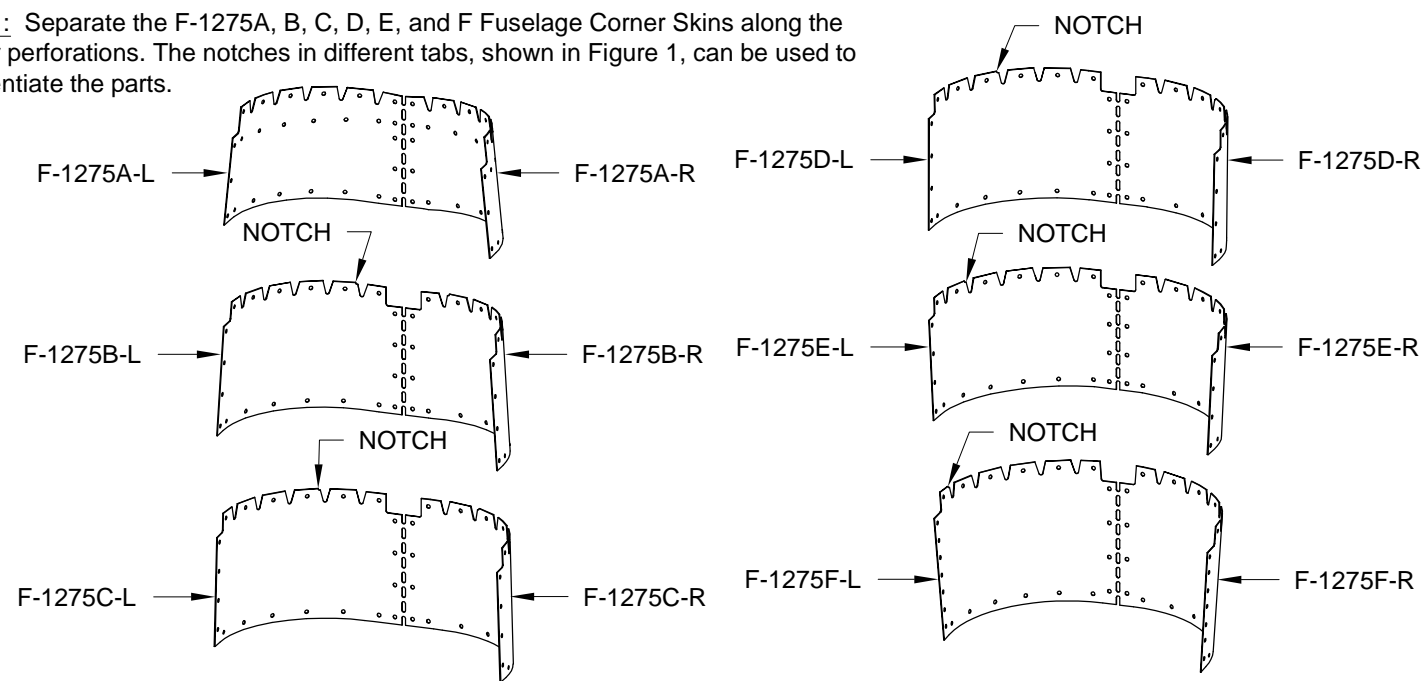

FIGURE 1: SEPARATING THE F-1275 FUSELAGE CORNER SKINS
Step 1: Separate the F-1275A, B, C, D, E, and F Fuselage Corner Skins along the center perforations. The notches in different tabs, shown in Figure 1, can be used to differentiate the parts.